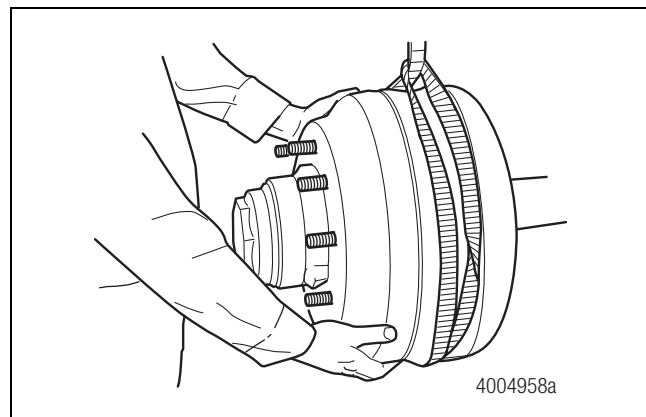

Figure 4.47
10. Install the brake drum and the tire and wheel assembly. Figure 4.47.